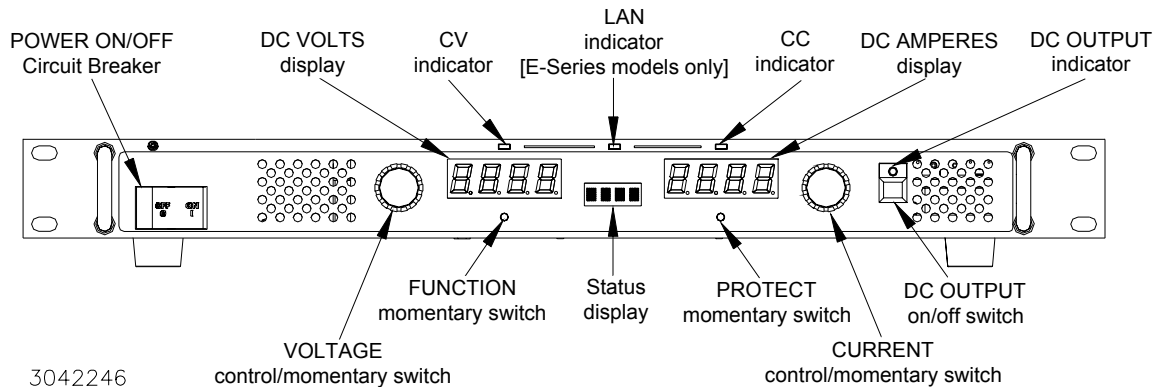

FIGURE 2-1. KLR SERIES, FRONT PANEL CONTROLS AND INDICATORS
2.2.1 FRONT PANEL CONTROLS AND INDICATORS. Refer to Figure 2-1 and Table 2-1.